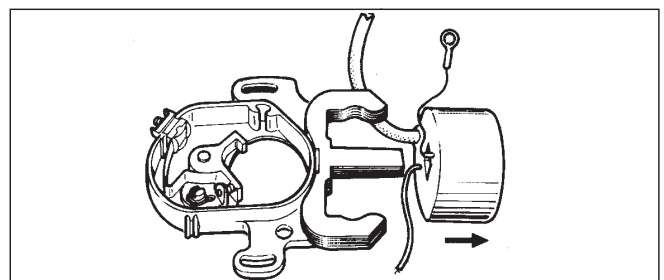

Fig. 15
- Completely detach coil (Fig 15).